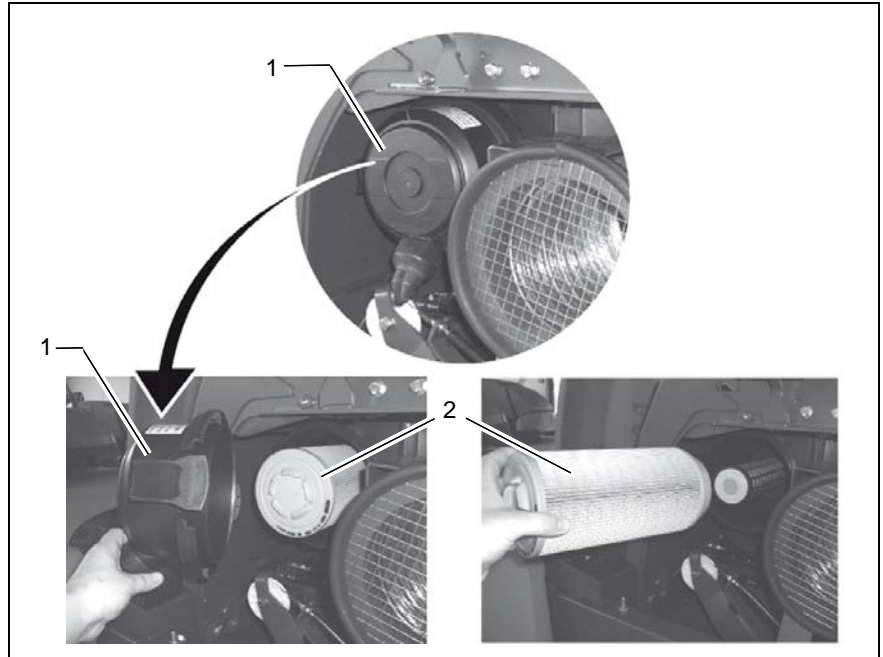

Fig.21
- Remove lock cap (Fig. 21/1) and filter (Fig. 21/2).